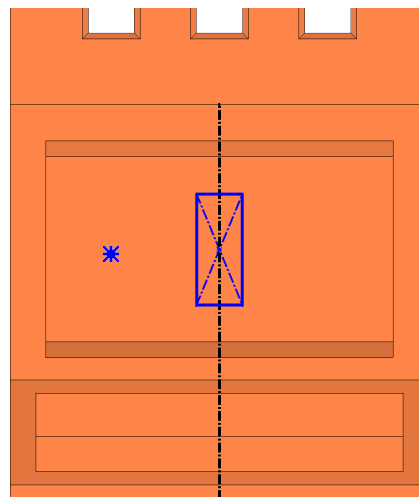

Fig. 42
Step 8. Sketch **point to left of rectangle**, **Fig. 42**.